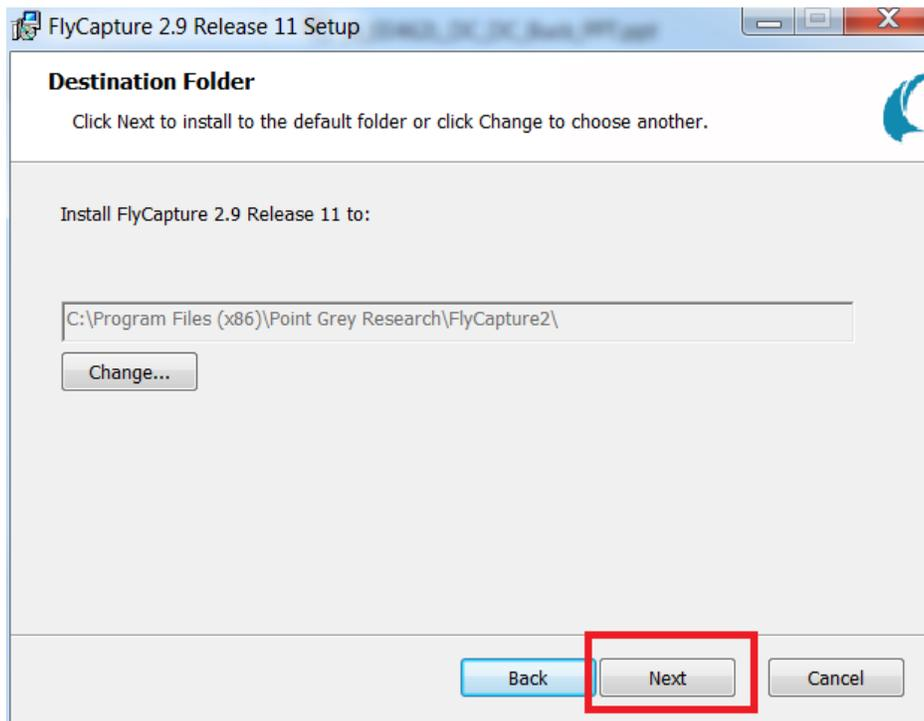

Figure 2-7. FlyCapture2 SDK Installation Path
7. Choose the installation directory where the FlyCapture2 SDK will be installed. Click the "Next" button, highlighted in Figure 2-7.